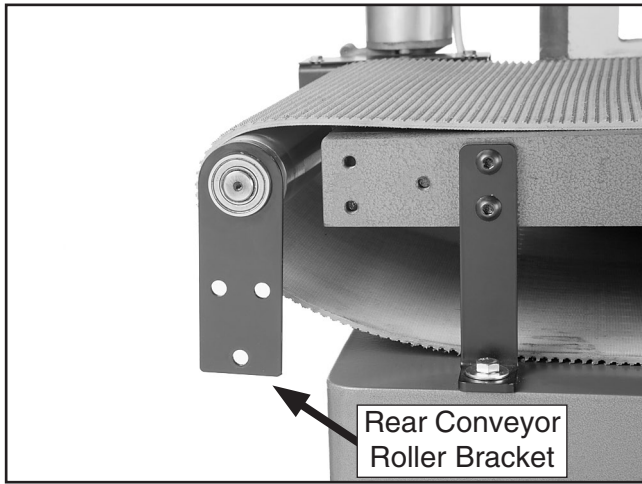

Figure 42. Rear conveyor roller bracket unattached.
- Use a 5mm hex wrench to remove the three M8-1.25 x 18 button head cap screws securing left rear conveyor roller bracket, leaving the rear conveyor roller assembly and bracket in place (see **Figure 42**).